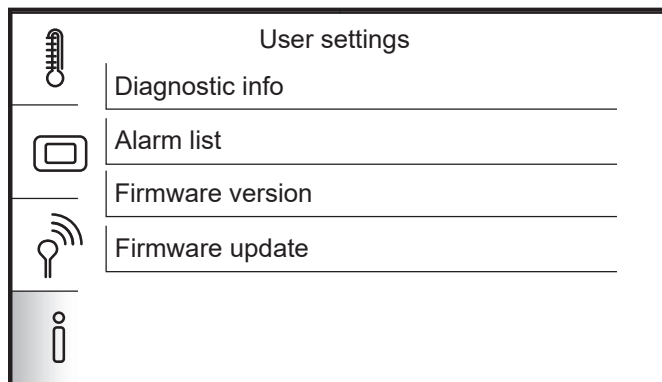

Figure 12-5: Controller information options.
5. Tap the information icon at the bottom. Refer to Figure 12-5.